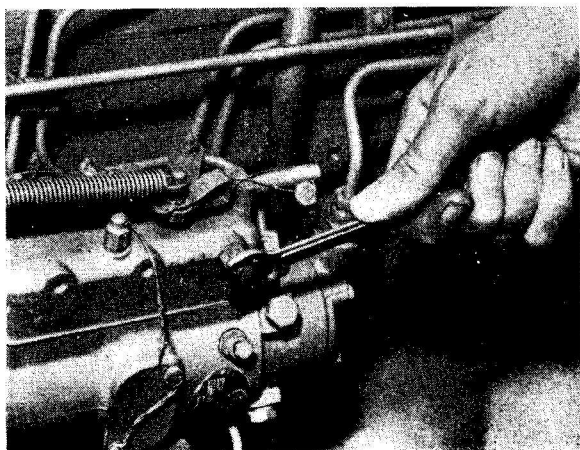

Fig. 14
1. Slacken the air vent valve on the front side of the governor control cover (mechanical governor, Fig. 14) or on the top of the control gear housing (hydraulic governor, Fig. 13).